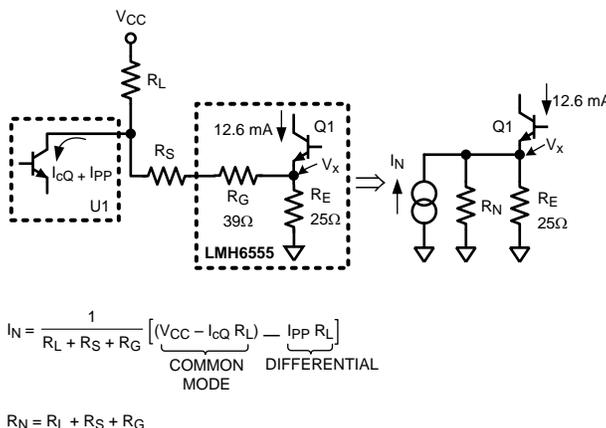

Figure 17. Norton Equivalent of the Input Circuitry Tied to Q1 within the LMH6555 in Figure 16
b.	Find the value of R_S to get the proper swing at the output (800 mV _{PP}). To do so, convert the input stage into its Norton equivalent as shown in Figure 17 .
The "V _x " node voltage within the LMH6555 (see Figure 17) would need to be calculated. Use the Common Mode component of the Norton equivalent source from above, and write the KCL at the V _x node as follows: